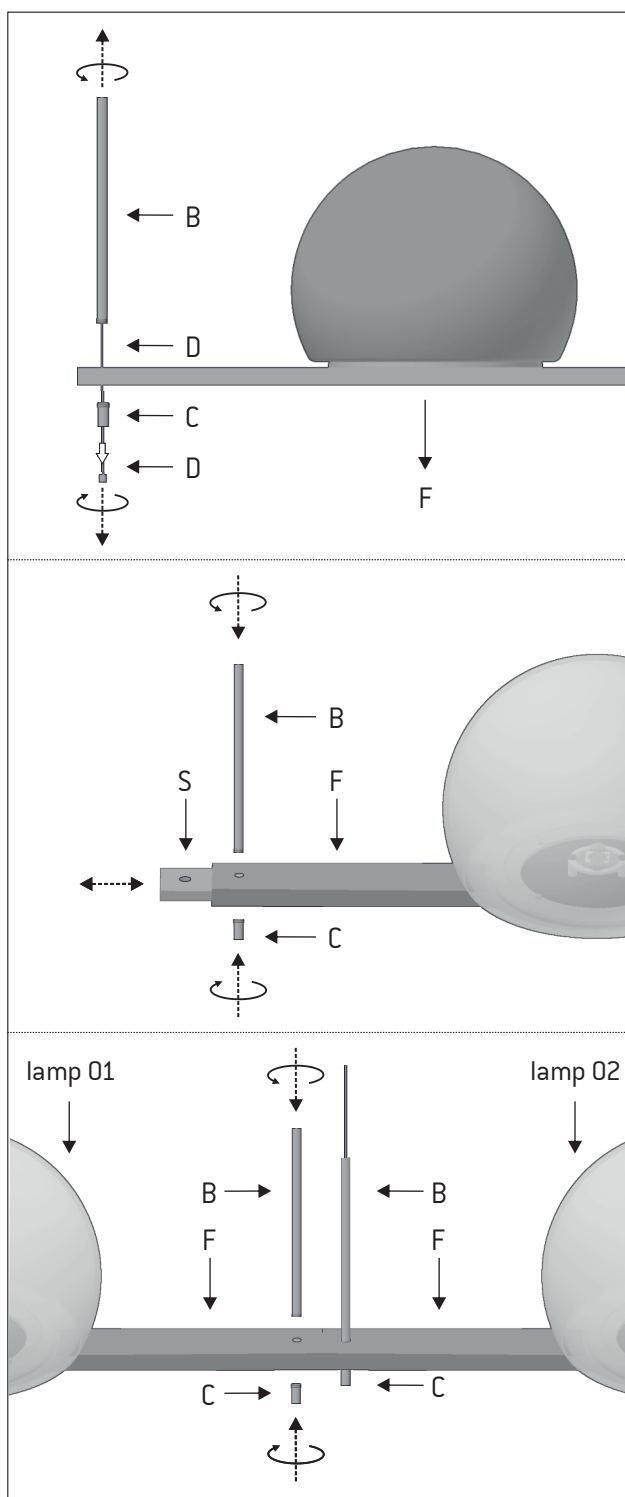

Figure 5
Separate the lamp body from the vertical stem and pull the rectangular piece (S) inside the stem (F) out. Insert half of the piece (S) back into the stem (F). Screw back the pieces (B) and (C) to fasten (S) and (F). Make sure that the rectangular piece (S) is attached to the stem (F) and to the pieces (A) and (B). Insert the steel cable through the piece (C) until it appears at the end of the stem (B). Carry out the same action at the end of the other lamp, discarding the new rectangular piece, and join the two lights through the piece (S) previously attached to the first light. Figure 5.